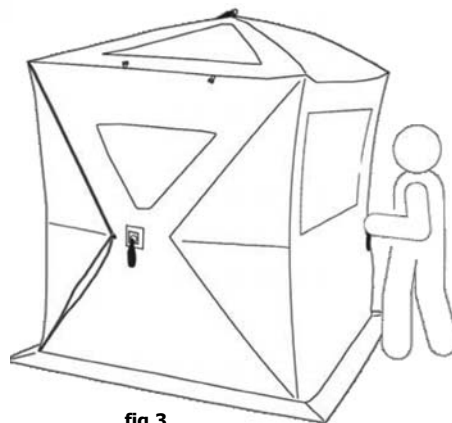
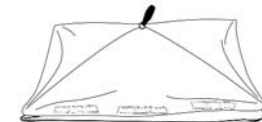

fig 3
fig 3a
Step 3: Lift roof of shelter so that you have access to center hub pole of one of the walls (**fig 3**).
Step 3: Repeat on remaining walls (fig 3). Once all **WALL HUBS** have been pushed in, shelter will collapse onto ground (fig 3a).